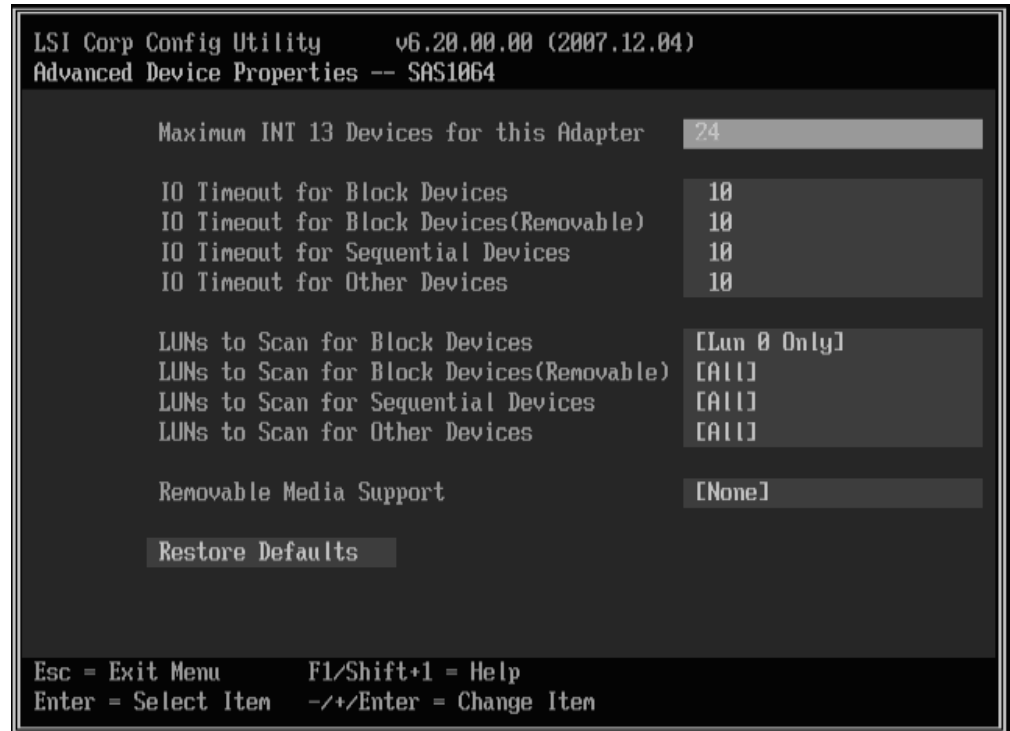

Figure 13. Advanced Device Properties screen
6. Use the arrow keys to select **Advanced Device Properties**, then press Enter. The Advanced Device Properties screen displays as shown in Figure 13 on page 45.